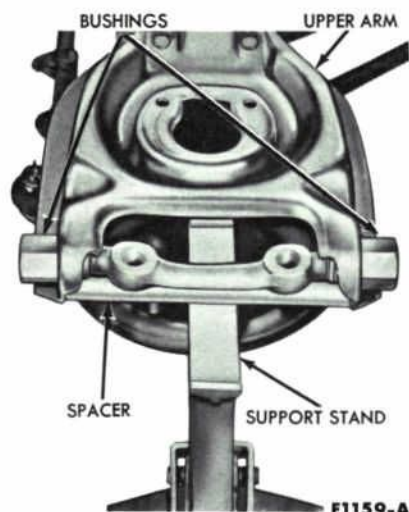

FIG. 82 — Upper Arm Shaft
4. Fabricate an 8-inch spacer from a section of 3/4-inch diameter pipe or metal of comparable size and strength. Position the spacer parallel with the inner shaft, and force the spacer between the flanges of the upper arm (Fig. 82). If the spacer cannot be forced between the arm flanges due to excessive distortion, replace the upper arm assembly.